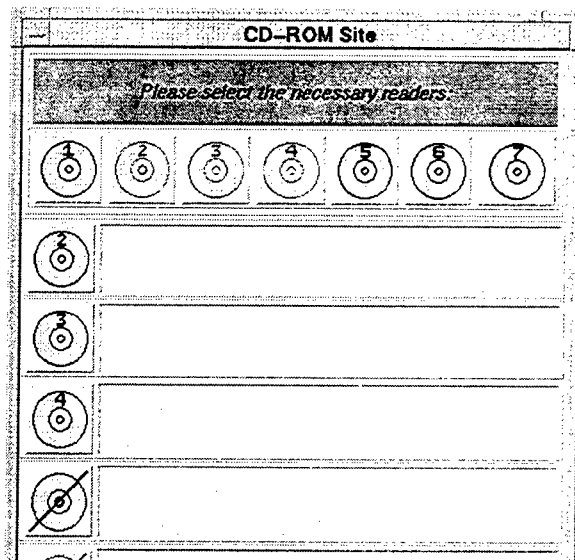

Fig. 76 — CD-ROM Site Window: three CD readers selected (#2, 3, 4)
- 3) Click (with left mouse button) on the CD device number(s) to be selected (1 through 7). As the user selects a device number, MMC will enter it in the list (Fig. 76).